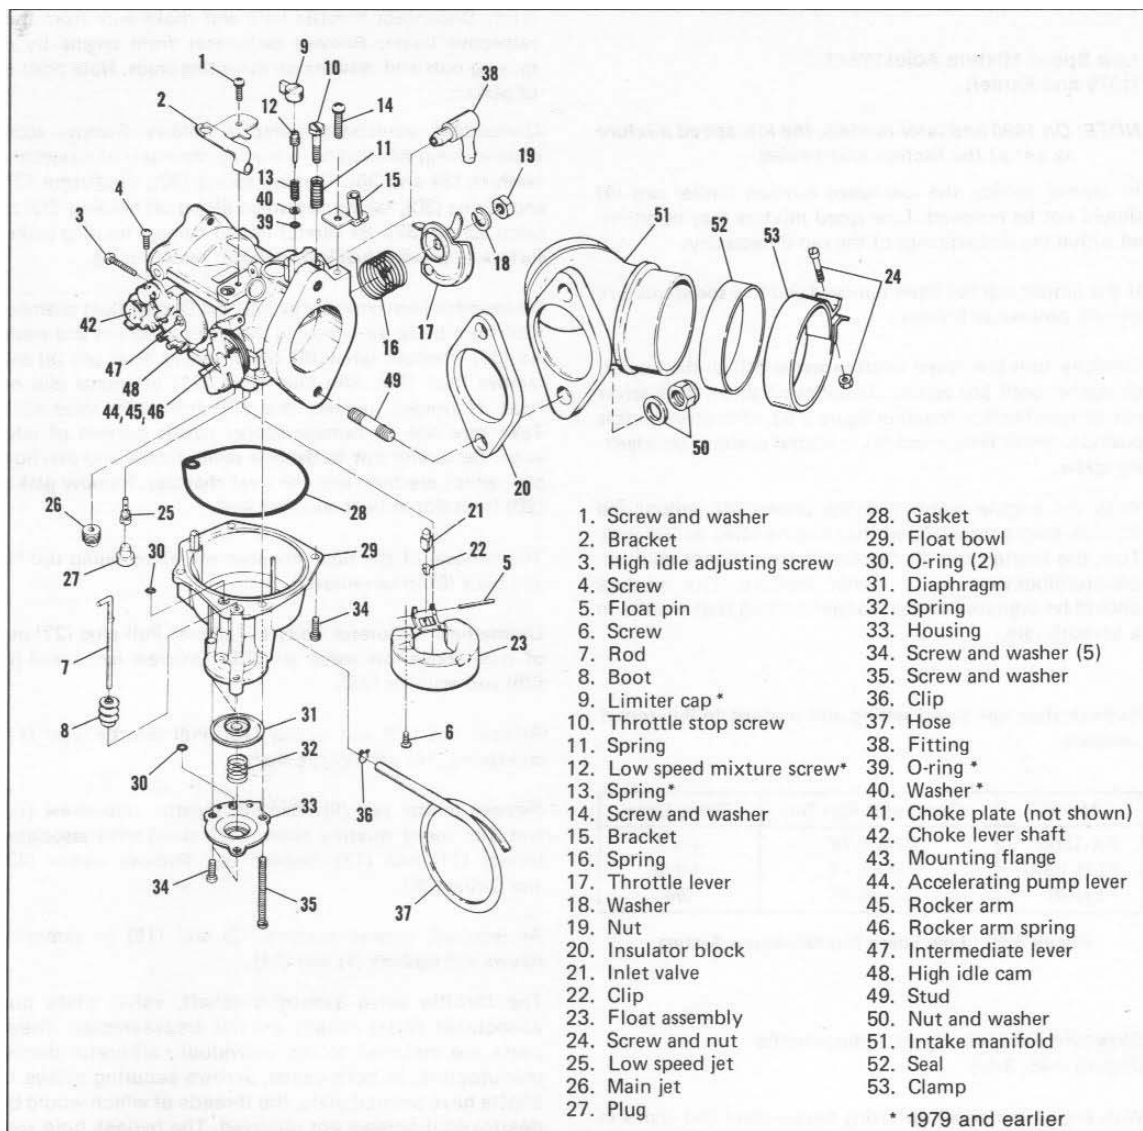

Figure 3-53. Carburetor — Exploded View
DISASSEMBLING CARBURETOR (Figure 3-53)
ASSEMBLING CARBURETOR (Figure 3-53)
Position insulator block (20, figure 3-53) and carburetor on mounting studs. Secure with nuts and washers (50). Tighten nuts to 19 ft-lbs torque.